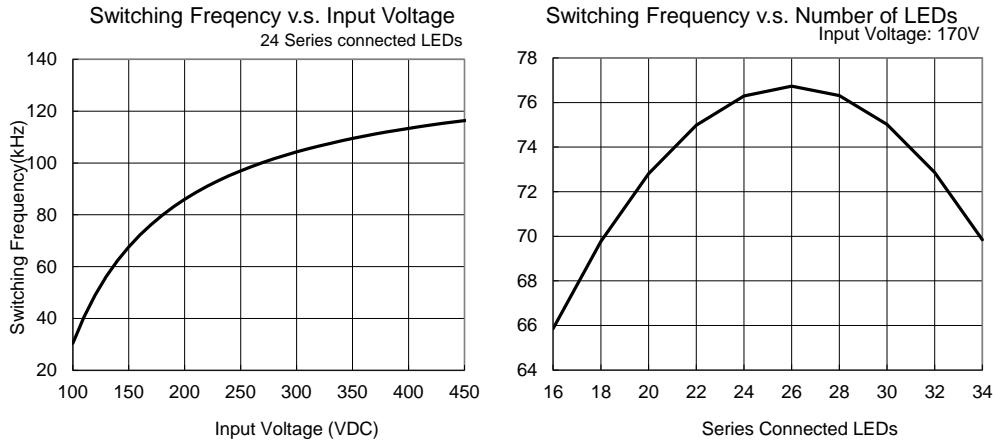

Figure 4. Examples of Switching Frequency Change by Input Voltage and Number of LEDs
Figure 4 shows examples of the frequency change when the input voltage and the number of LEDs connected in series (VF) are changed. In order to keep the frequency within desired switching frequency range, L1 and ΔI_{L1} need to be configured properly.